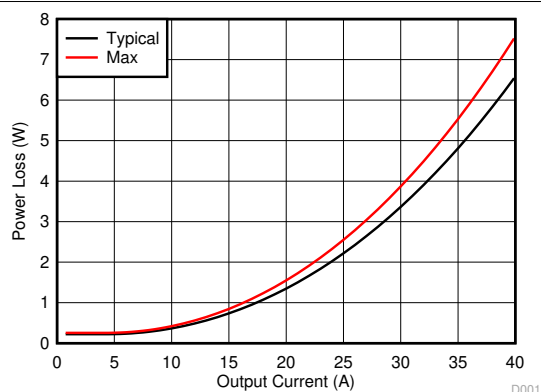

Figure 5-1. Power Loss vs Output Current
The typical power block system characteristic curves (Figure 5-1 through Figure 5-6) are based on measurements made on a PCB design with dimensions of 4 in (W) × 3.5 in (L) × 0.062 in (H) and 6 copper layers of 2-oz copper thickness. See Section 6 section for detailed explanation. $T_J = 125^{\circ}\text{C}$, unless stated otherwise.
Figure 5-1 plots the CSD88599Q5DC power loss as a function of load current. The measured power loss includes both input conversion loss and gate drive loss.
In the example below, we show how to achieve this for the temperatures $T_C = 124^{\circ}\text{C}$ and $T_B = 120^{\circ}\text{C}$. First we draw from 40 A on the Y-axis at 124°C to 120°C on the X-axis. Then, we draw a line up from where this line crosses the T_{χ} line to see that this line intercepts the SOA at 34 A. Thus we can assume if we are measuring a PCB temperature of 124°C , and a top case temperature of 120°C , the power block can handle 34-A RMS, at the normalized conditions. At conditions that differ from those in Figure 5-1, the user may be required to make an SOA temperature adjustment on the T_{χ} line, as shown in the next section.